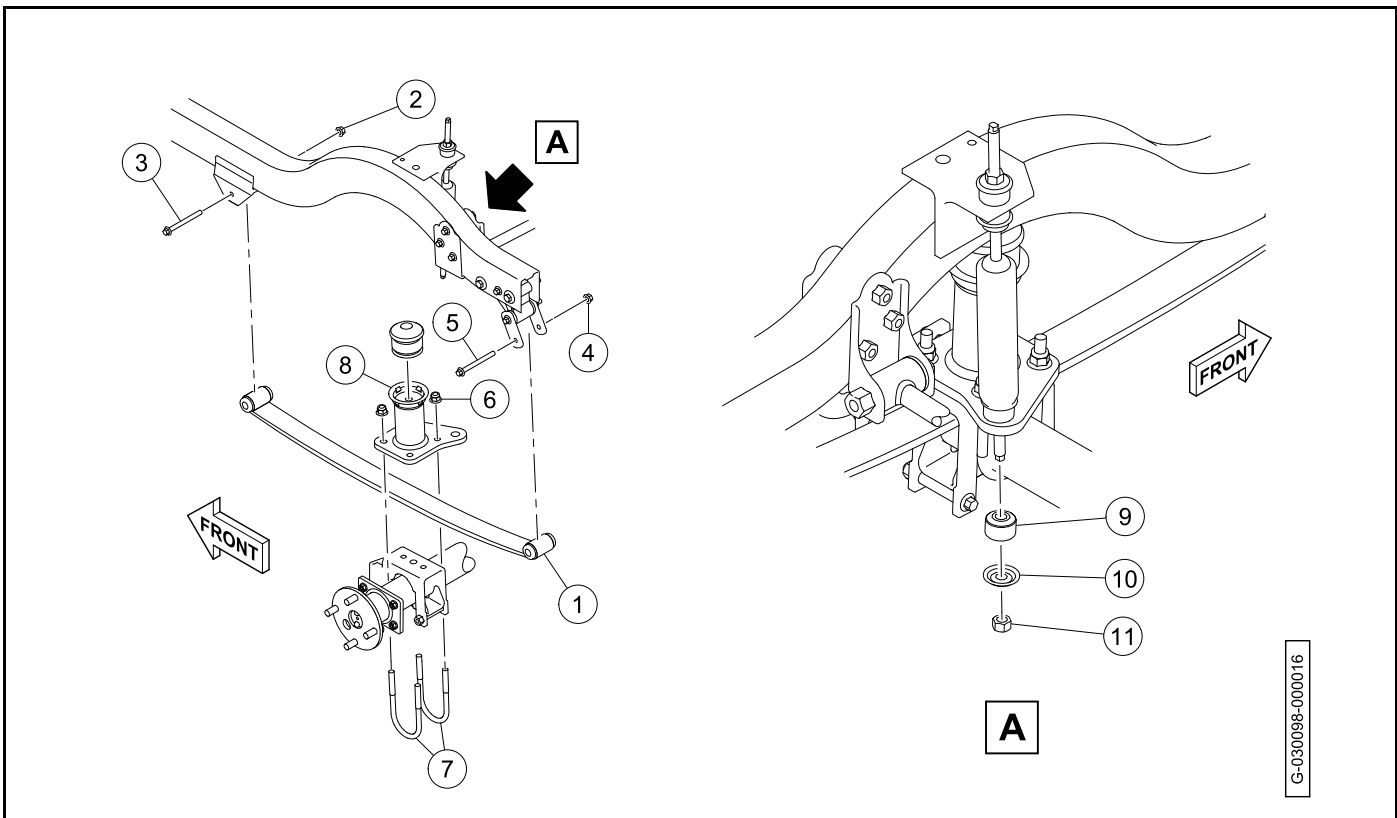

Figure 9-19 Leaf Spring Installation (Lifted Four Passenger)
1. Install the front of the leaf spring (1) onto the vehicle frame (**Figure 9-19, Page 9-16**).